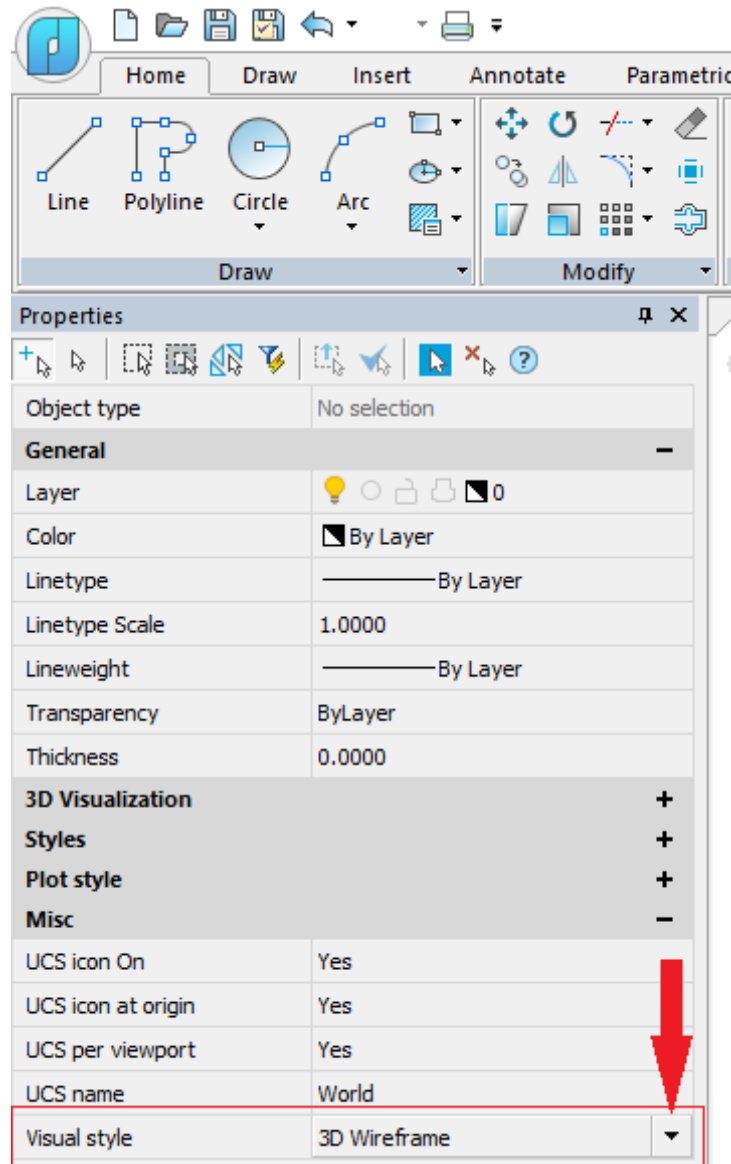

Fig.13. Change the visual style
2.1. In the **Properties**, choose **3D Wireframe** for the Visual Style (fig. 13):